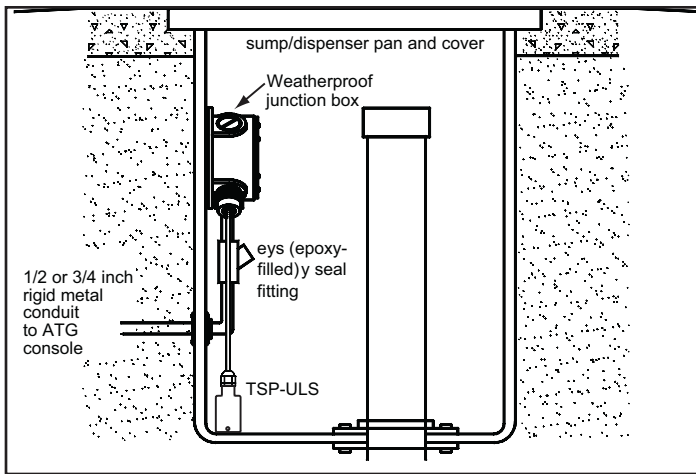
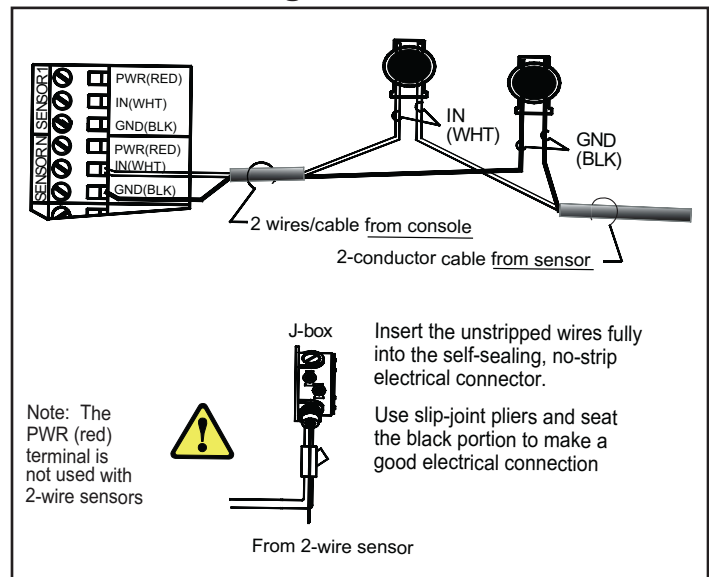

Figure 3: Installation in Sumps/Dispenser Pans
Figure 4: TSP-ULS Wiring
5. Pull the sensor cable through the cord grip fitting at the junction box (also see Figure 3 for installation within a sump) and tighten all remaining cord-grip fittings. Trim wire/cables to a 6 or 8 inch (15 or 20 cm) service-loop, and splice the sensor and console cable/wires together as shown in Figure 4.
Reference the ATG Installation Manual and see Figure 4 (above) for TSP-ULS sensor wiring details. The two-wire TSP-ULS sensor does not have a red (power) conductor, therefore, the PWR (RED) interface terminal at the console is not used. When a 3-conductor Alpha cable is used, the red conductor can be clipped or taped back on both ends.